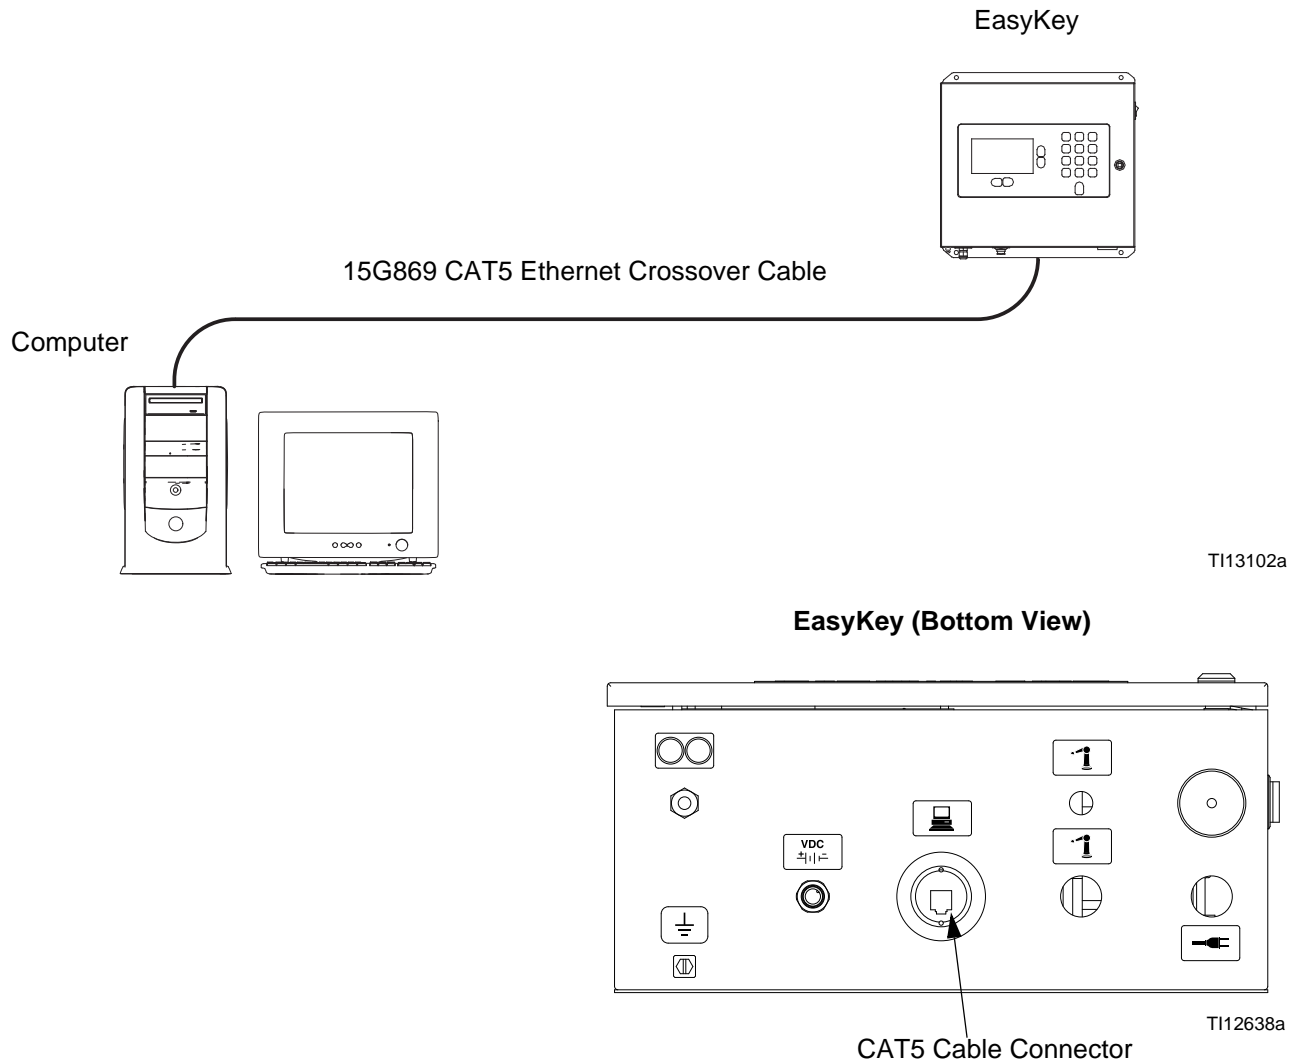

FIG. 7. ProMix 2KS/3KS Basic Web Interface Connection
2. After installing the ProMix Application Interface connect the computer directly to the EasyKey, using the 15G869 CAT5 Ethernet crossover cable supplied with the EasyKey. See FIG. 7.